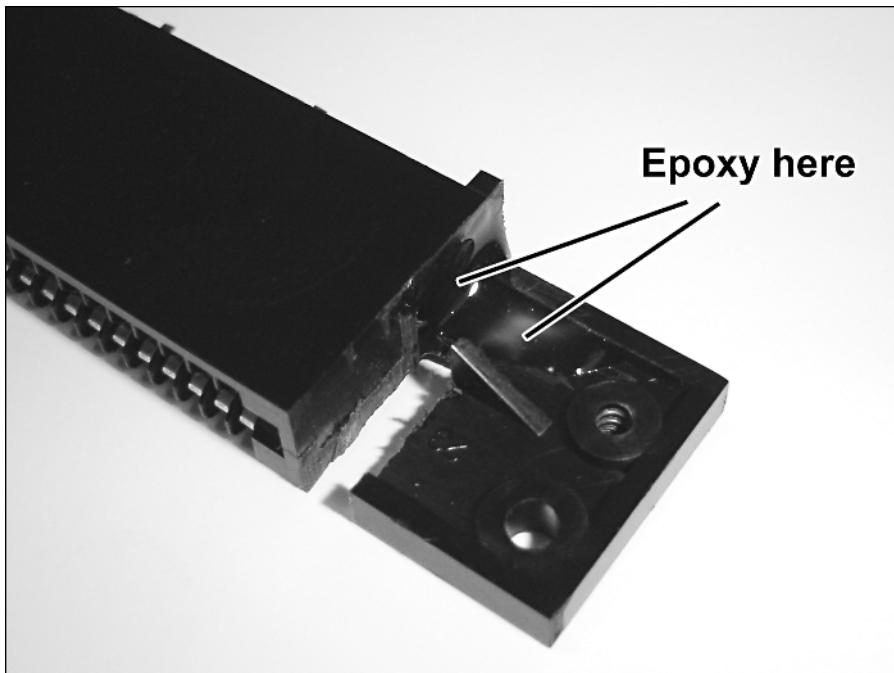

FIGURE 8-12: The sides of the connector with epoxy glopped on for added support.
12. A while back, I cautioned about the strength of the plastic sides where the screw holes are. Sand down the area shown in Figure 8-12 and smear some epoxy over it to reinforce the plastic. Naturally, don't let any epoxy get where the cartridge itself might hit it.